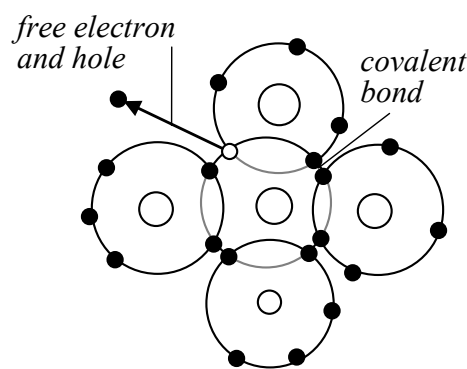

Fig. 1.1
**Crystal.** Each atom that is normally bonded with the nearest neighbor atoms results in a special shape called a *crystal* (Fig 1.1). A silicon atom that is a part of a crystal has eight electrons in the valence orbit and four neighbor atoms. Each of the four neighbors shares one electron. Since each shared electron in Fig. 1.1 is being pulled in opposite directions, it is a kind of a bond between the opposite cores. This type of a bond is known as a *covalent bond*. The covalent bonds hold the tetravalent crystal together, ensuring its stability.
**Recombination.** The departure of the electron leaves a vacancy in the valence orbit. Such a vacant spot in the valence bond is called a *hole*. This hole acts in many respects as a positive charge because it will attract and capture any electron in the immediate vicinity, as presented in Fig. 1.1. Occasionally, a free electron will approach a hole, fill its attraction, and fall into it. This merging of a free electron and a hole is called *recombination*. In this way, valence electrons travel along the material. As far as both electrons and holes contribute to the conductivity, the holes in each case contribute about half as much as electrons. The average amount of time between the creation and recombination of a free electron and a hole is called the *lifetime*.